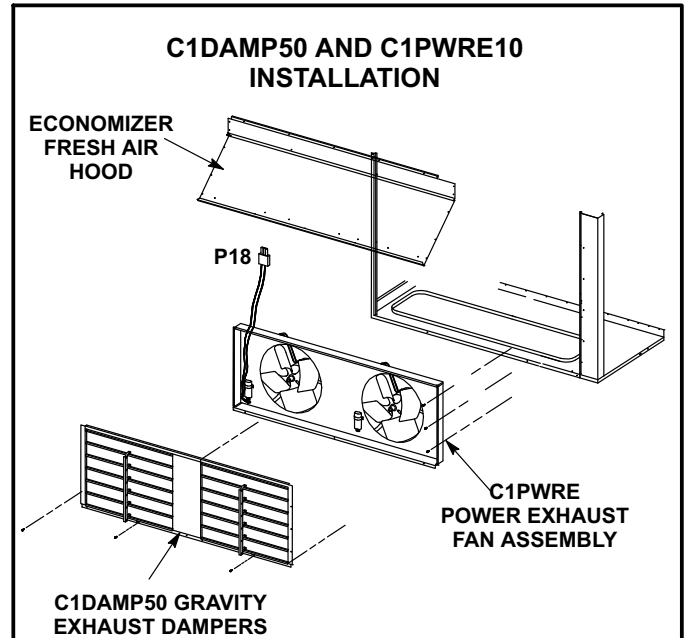

FIGURE 39
C1DAMP50 dampers (figure 39) are used in downflow and LAGED(H)18/24 are used in horizontal air discharge applications. LAGED(H) gravity exhaust dampers are installed in the return air plenum. The dampers must be used any time an economizer or power exhaust fans are applied to KGA series units.
Power exhaust fans are used in downflow applications only. The fans require optional downflow barometric relief dampers and K1ECON economizers. Power exhaust fans provide exhaust air pressure relief and also run when return air dampers are closed and supply air blowers are operating. Figure 39 shows the location of the C1PWRE. See installation instructions for more detail.